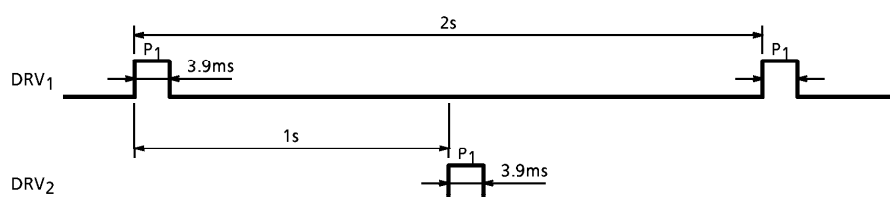

Fig.3 Step motor drive output
- (1) As Fig.3 shows, the step motor drive signals DRV₁ and DRV₂ are output in one-second cycles alternately.